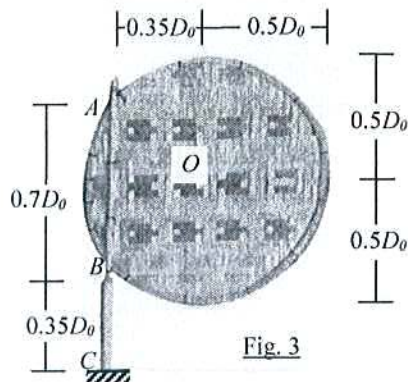

Fig. 3
4. Fig. 3 shows a cantilever hand-fan ABC fixed at base C . It is subjected to wind pressure perpendicular to the surface, approximated by a distributed wind-force $f_0 = 100$ lb/ft (acting at O) over the length AB .